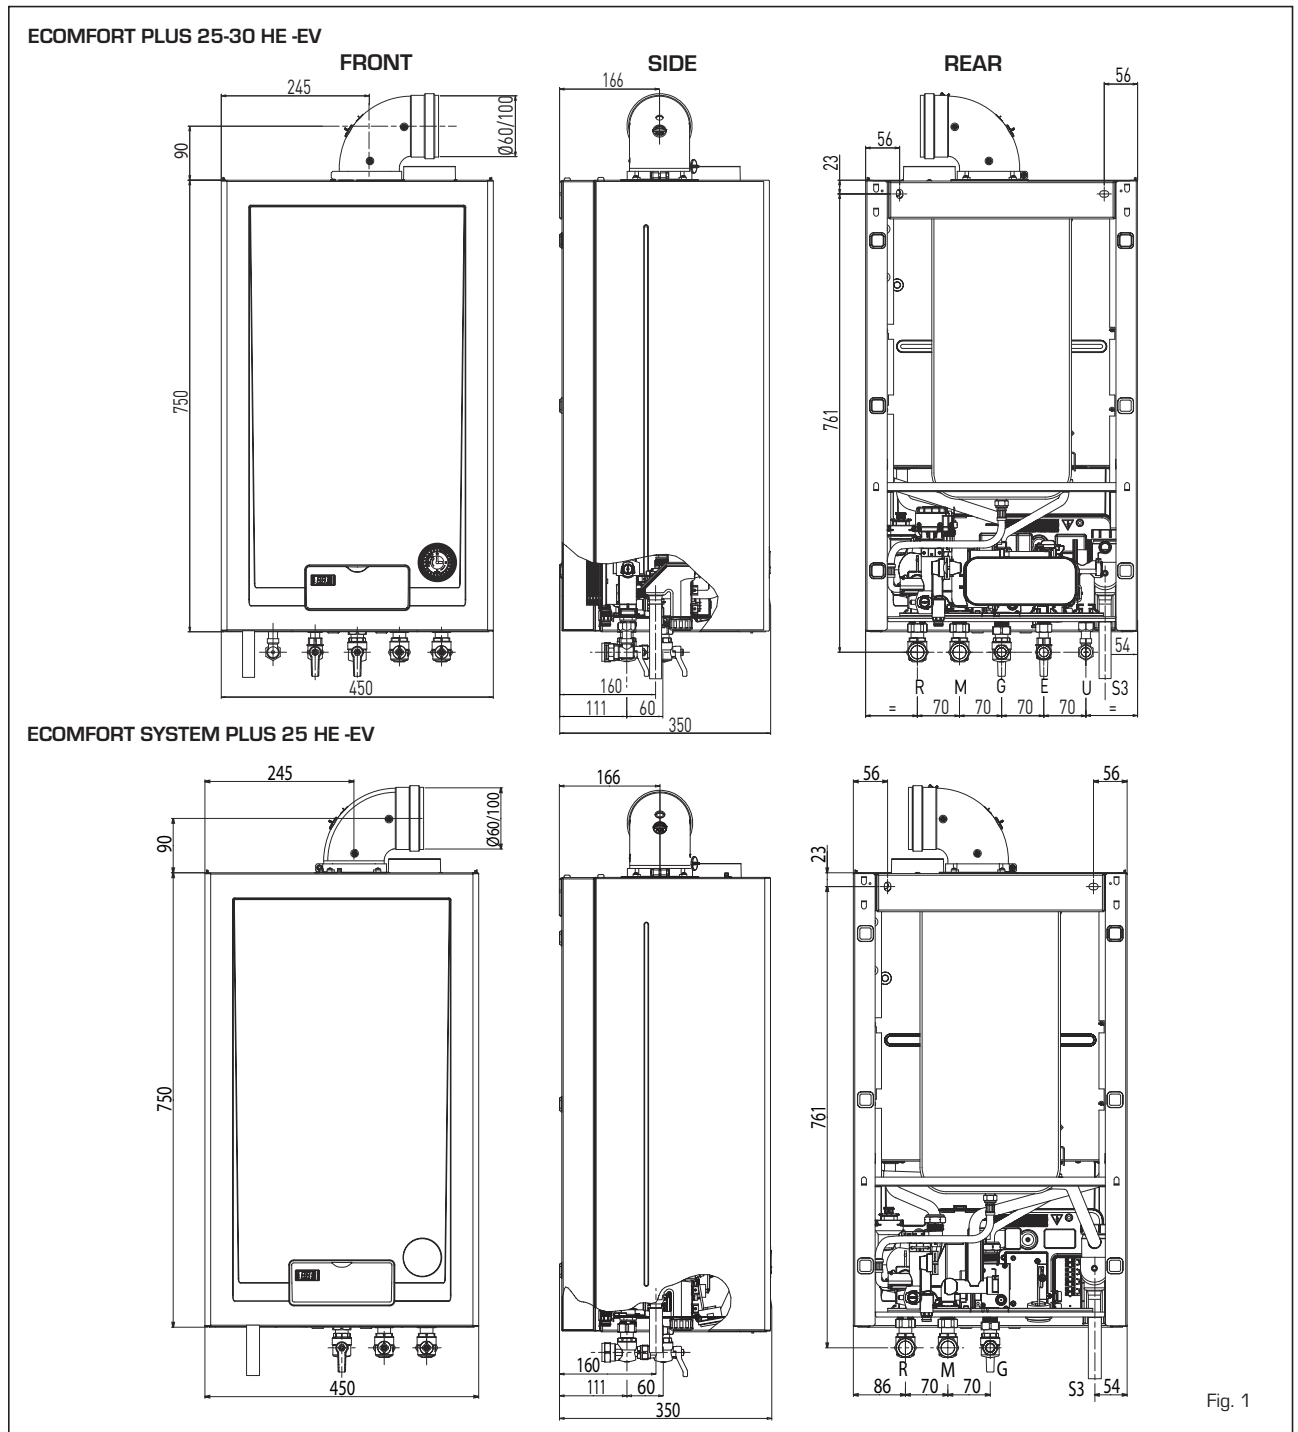

Fig. 1
1.2 DIMENSIONS (Fig. 1)
in order to eliminate any foreign bodies that might be detrimental to the operating efficiency of the appliance. When making the hydraulic connections, make sure that the clearances indicated in fig. 1 are respected. To facilitate the hydraulic connections the boiler is equipped with a valve pack code 5184817A complete with instructions sheet.